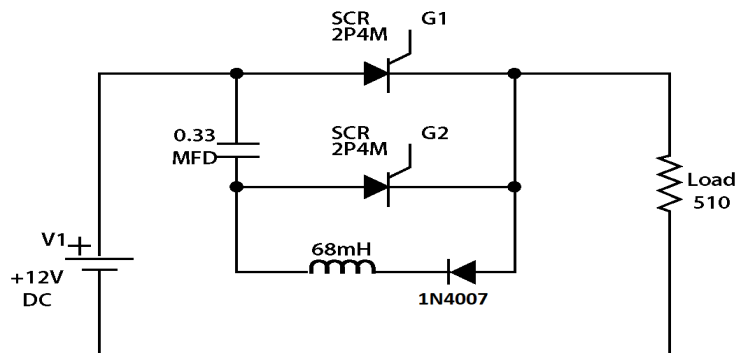

Figure 11
1. Connect the circuit as shown in Fig. 11.